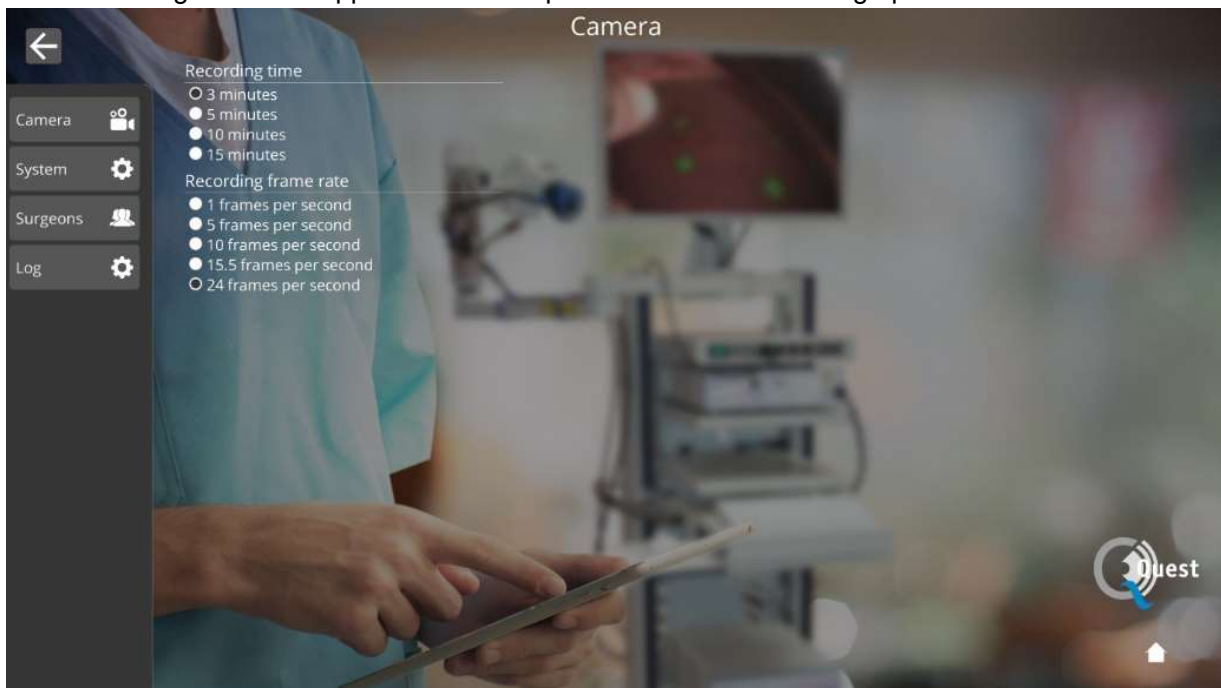

Figure 19: Technical service settings
- Access the technical staff's settings (see figure 19 and figure 20 and further explanation below)
When having entered the correct pin-code after selecting the option Technical service, an interface as shown in figure 19 will appear. See an explanation about the setting options below.